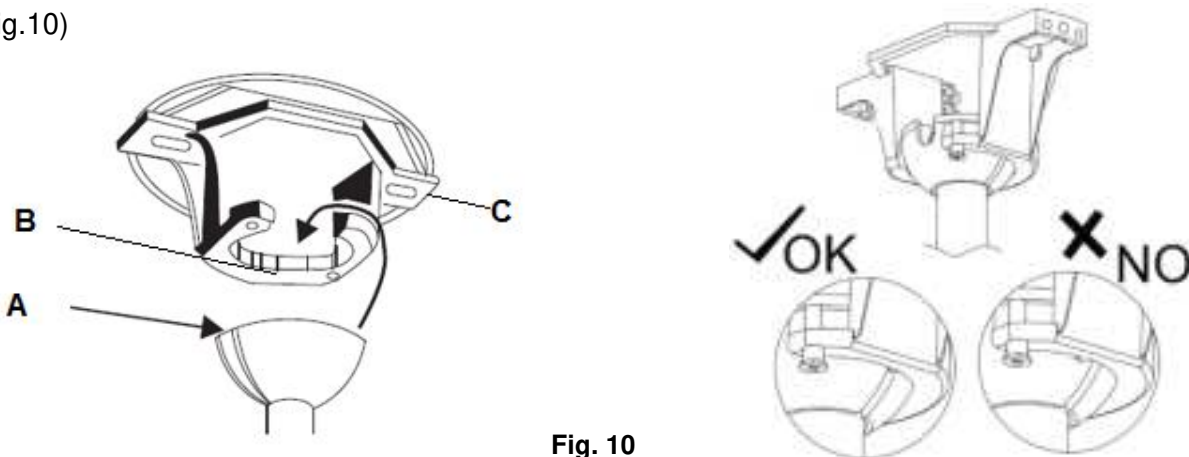

Fig. 10
Lift the fan assembly onto the mounting bracket. Ensure the registration slot (A) of the hanger ball is positioned on the stopper (B) of the mounting bracket (C) to prevent the fan from rotating when in operation. (Fig.10)